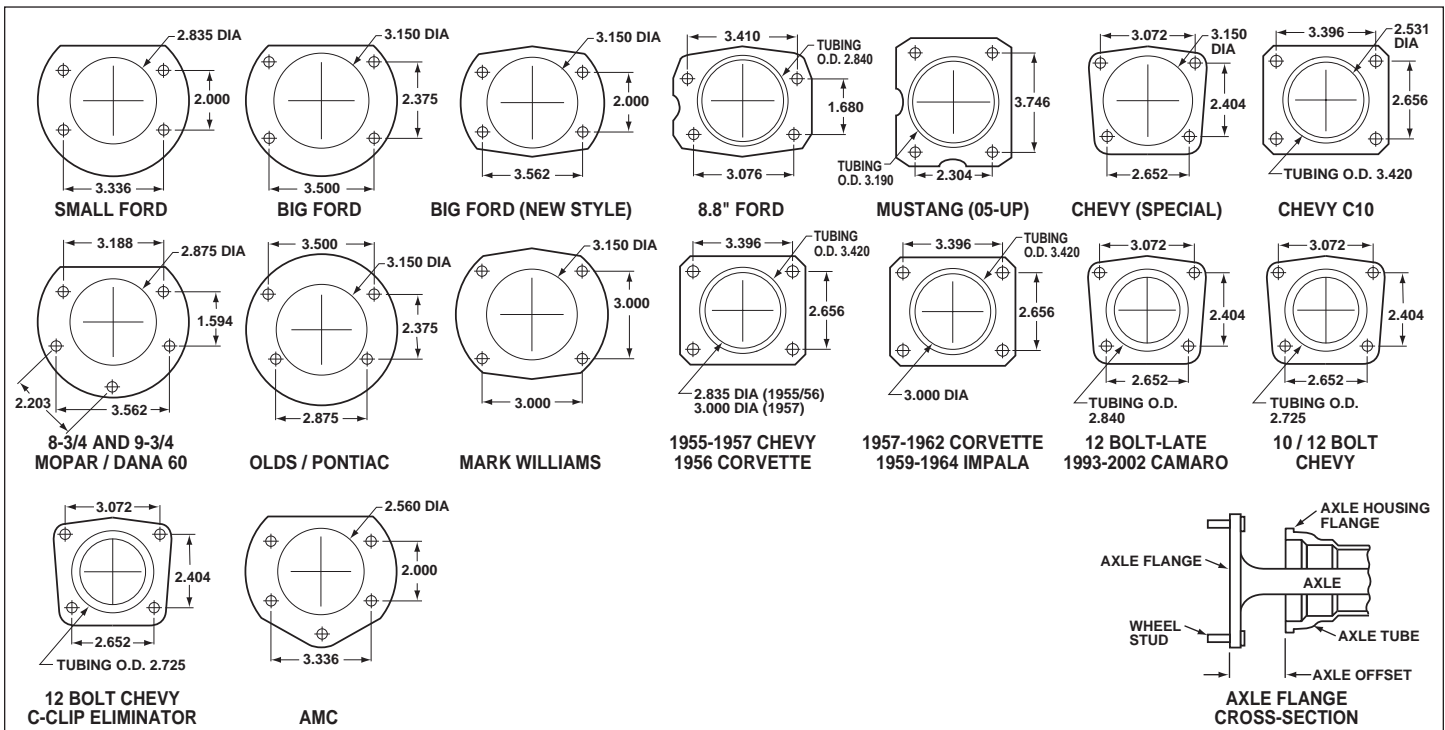

Figure 5. Rear Housing Flange Chart and Axle Flange / Offset Cross-Section
• Make sure this is the correct kit to fit the axle housing flange, not necessarily the rear end make. Many times aftermarket manufacturers put a different make of axle housing flange on the stock rear end housing (Figure 5). Example; Big Ford rear ends with Olds-Pontiac flanges, therefore, an Olds-Pontiac rear disc brake kit would be the correct kit to order. Also, shock clearance may be a problem. They may have to be modified and/or relocated to clear the Wilwood kit after final assembly.
- Dimension from wheel side of axle flange to wheel side of axle housing flange (see Figure 5, lower right hand corner). This dimension is critical to ensure proper alignment of the rotor to the caliper, and should match offset given in the kit description. **NOTE: Left side only; leave OEM shim stack in place against axle housing when measuring offset.**